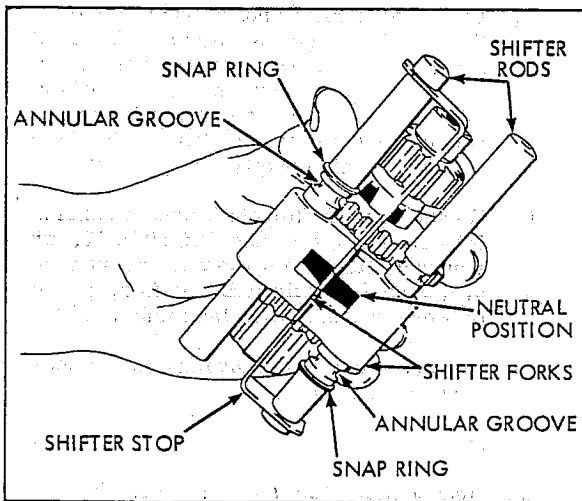

Figure 10-11 Final Assembly
- (4) When the shifter forks are properly assembled to the shifter rods and positioned in neutral, the ends of the notches in the shifter forks are in alignment. (Figure 10-11)